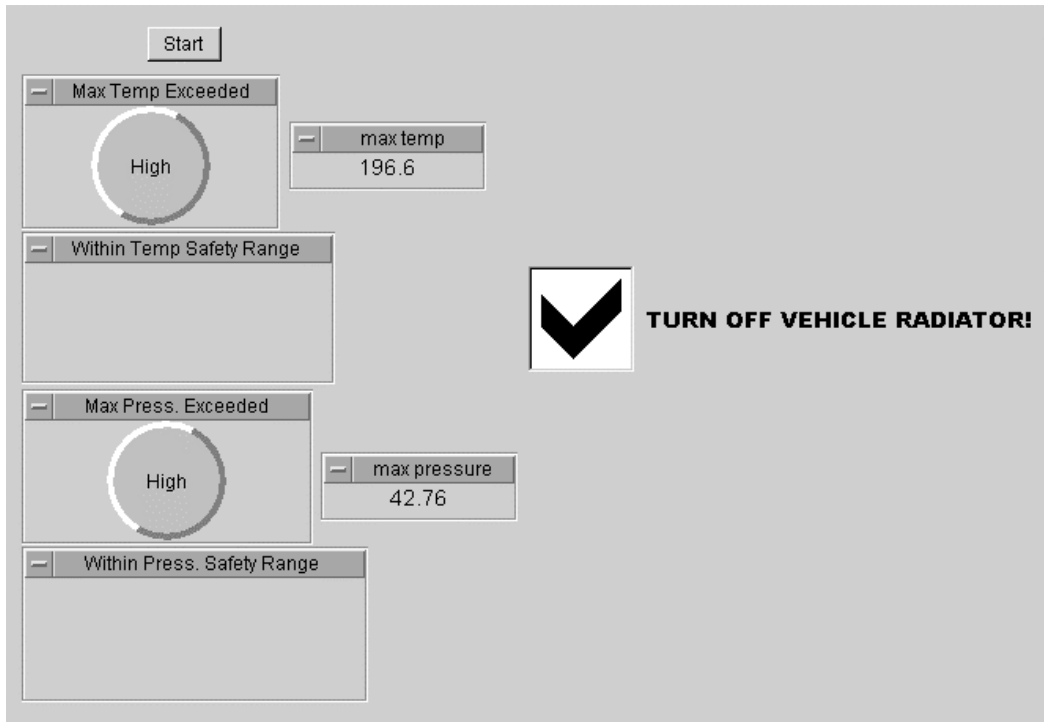

Figure 14.20. Lab14-4 after running
- ◇ 62. Run this program several times to observe the various combinations of “Low” and “High” and note the Beep sound (if you have active speakers); see Figure 14.20.